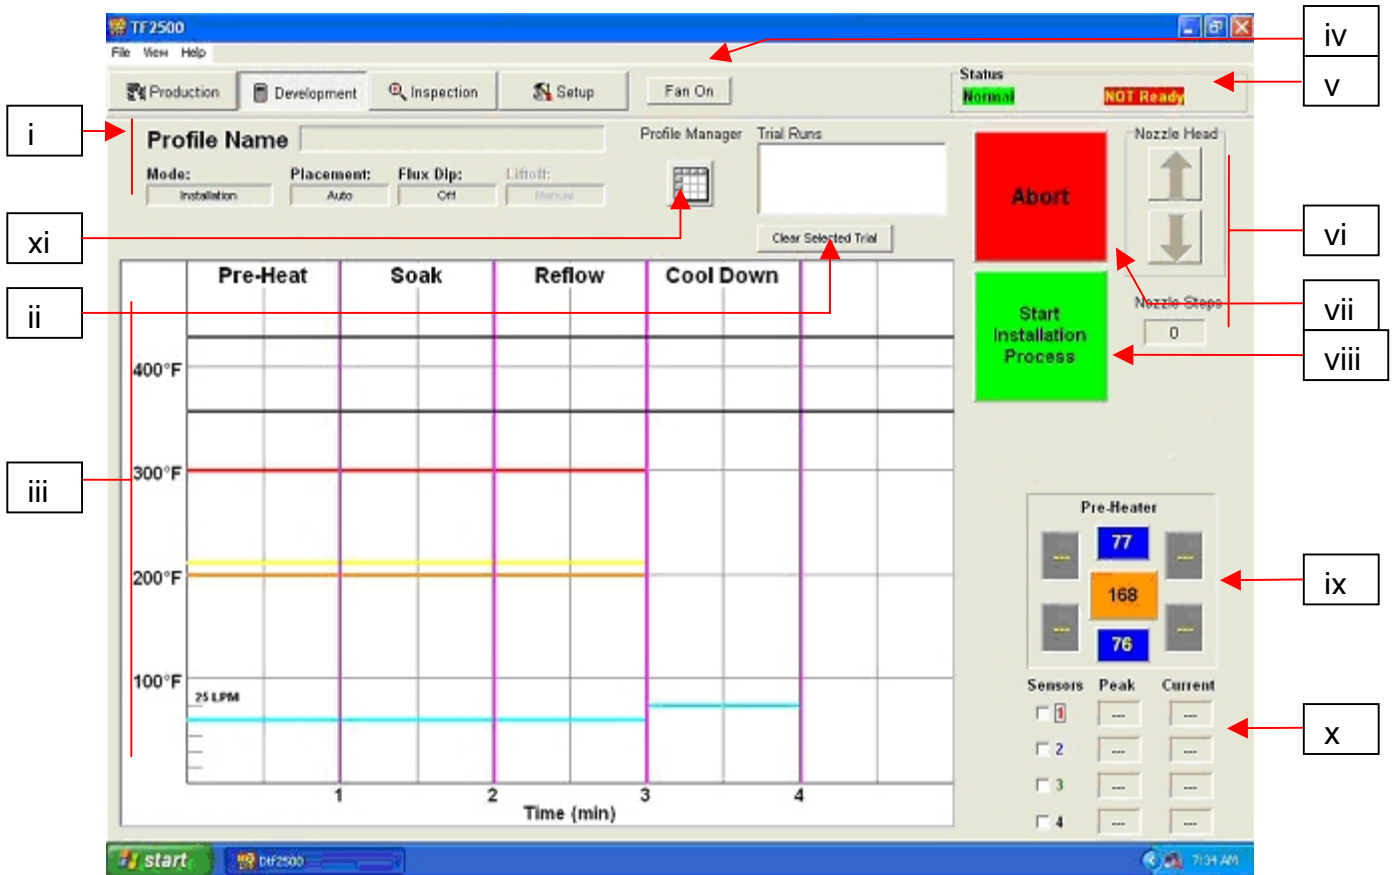

Figure 7
i. Profile Development Screen Features (Figure 7)